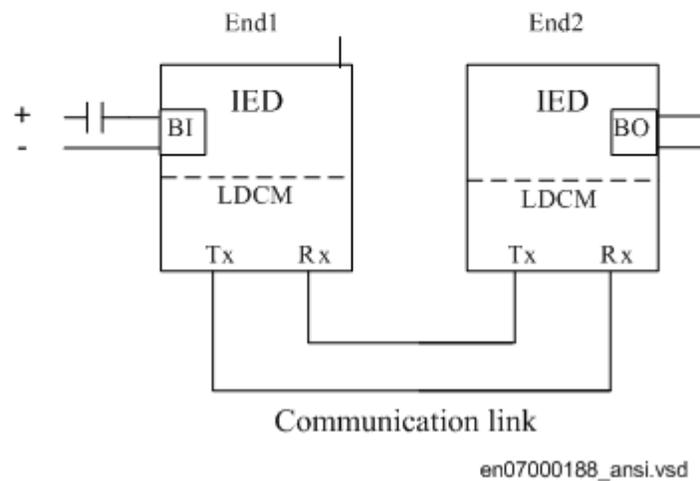

Figure 83: Test of RTC with I/O
A test connection is shown in figure 83. A binary input signal (BI) at End1 is configured to be transferred through the communication link to End2. At End2 the received signal is configured to control a binary output (BO). Check at End2 that the BI signal is received and the BO operates.